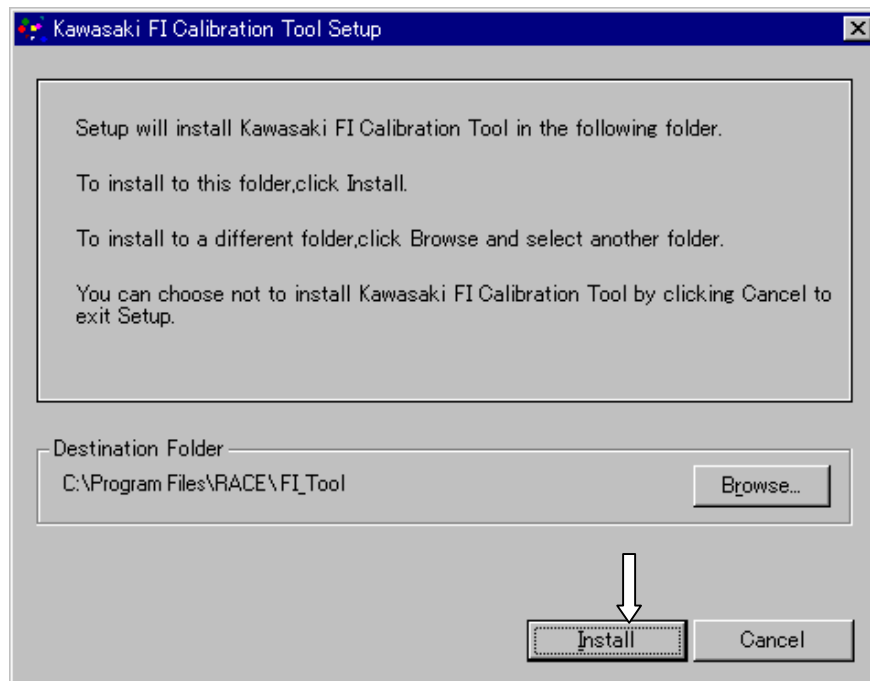

Fig. 6 Choosing Destination Folder
(5) The destination folder selection screen shown in Fig. 6 appears.